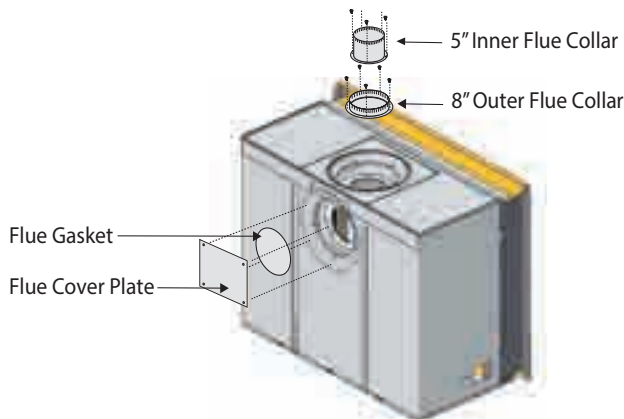

Figure 10. Flue cover and collar removal, Top Vented fireplace.
1. Remove the Rear flue cover and gasket (5" and 8") on the flue outlet, as shown in Figure 10.
outlet, as shown in Figure 10.